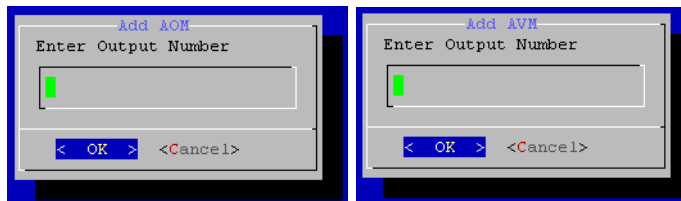

FIG. 20 Add Output Module (AOM and AVM)
2. Click **OK** to proceed. Next you must enter an *Output Number* for the new module (FIG. 20).